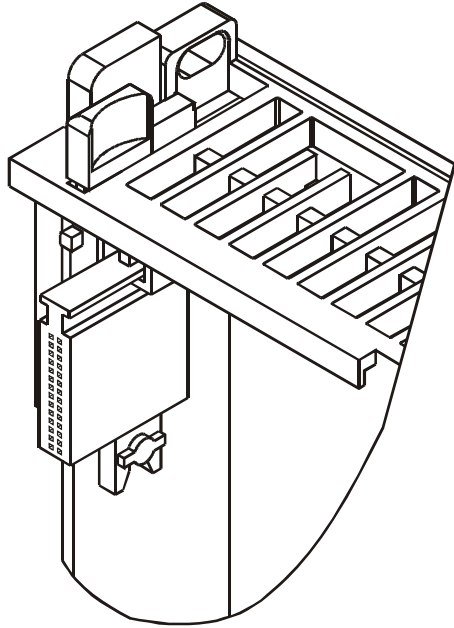

FIG. 3-3 CONNECTOR IN LOCKED POSITION
- Step 4. When you have the modules aligned, press Lever B towards Module A to fasten the connector to Module A. (See Fig. 3-3)